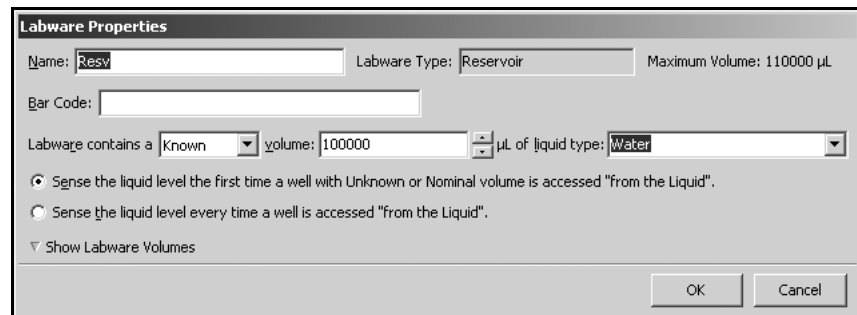

Figure 2-5. Labware Properties for Reservoir on P3
- From the Deck Layout Display, double-click the reservoir on P3 to display Labware Properties (Figure 2-5).
11. In liquid type, select **Water\_MP200\_P200** from the pull-down menu. Labware Properties for the Reservoir should look like Figure 2-5.